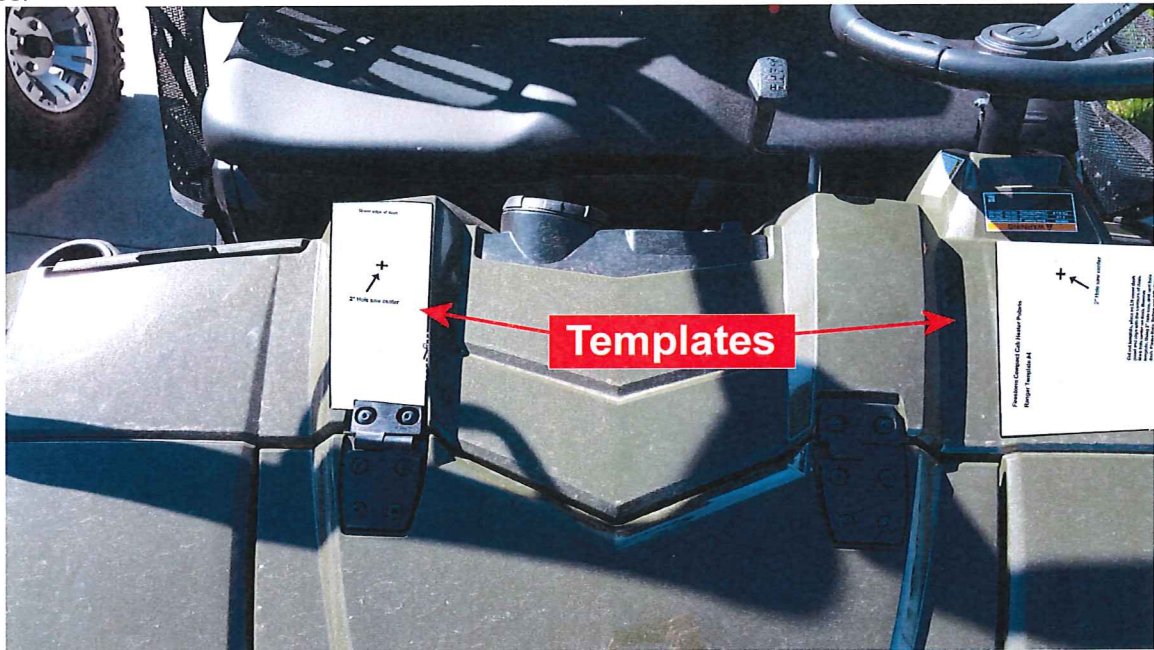

Figure 7
1. Cut out the Defrost Vent Templates 4 & 5 and position on the dash as shown in Figure 7 and as stated on the templates.